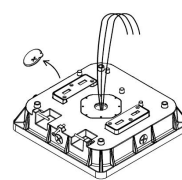

Figure 4
- Remove the rubber plug sealing the wireway enclosure by gently prying and pulling off the plug (see Figure 4).